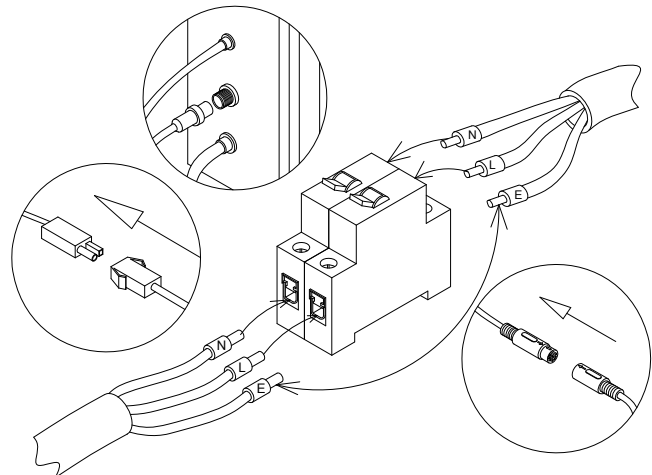
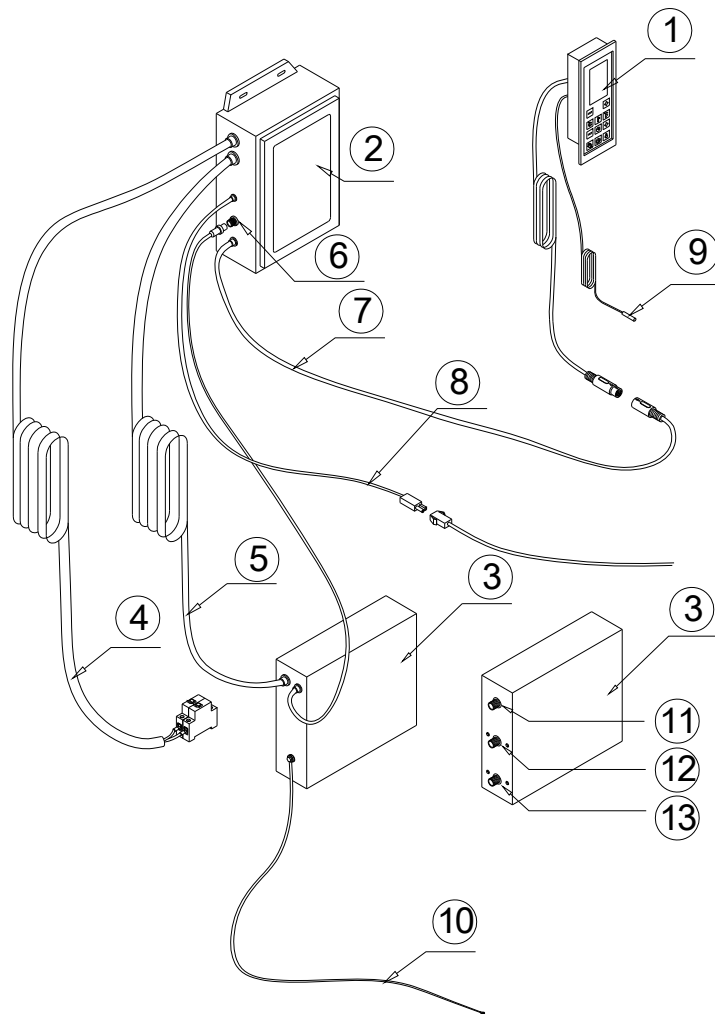

Fig 24
Fig 30
21. Connect the steam generator circuit, according wiring diagram. Connect power cable (not supplied) to the power supply box. Wires marked N and L are HOT wires, E – neutral. Connect yellow wire from the steam generator to the ground. See Fig 24 and Fig 30 for details. (**Use the corresponding electrical connection or plug according to the local power system standards**).